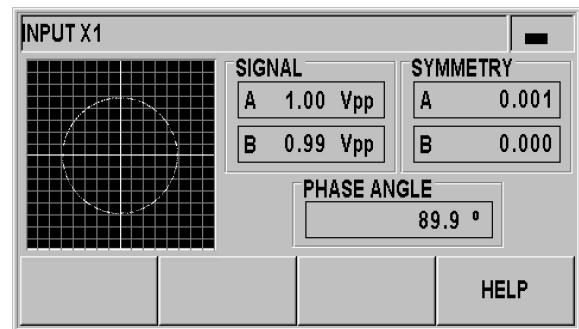

Fig. II.40 Encoder test: 1 Vpp interface
- As the encoder is moved, you will see the signals of the A and B channels as Lissajous figure (see Fig. II.40), as well as the amplitude, symmetry and phase offset values.